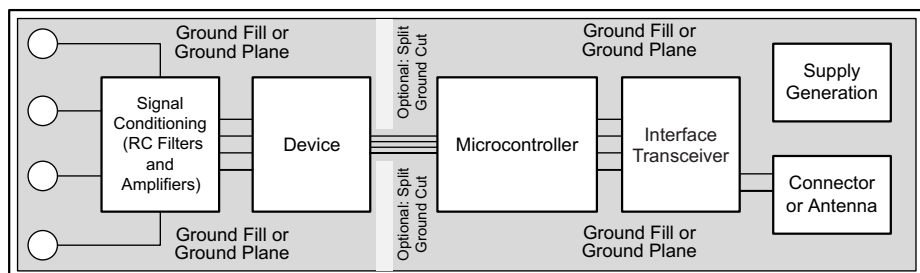

Figure 87. System Component Placement
Employing best design practices is recommended when laying out a printed-circuit board (PCB) for both analog and digital components. This recommendation generally means that the layout separates analog components [such as ADCs, amplifiers, references, digital-to-analog converters (DACs), and analog MUXs] from digital components [such as microcontrollers, complex programmable logic devices (CPLDs), field-programmable gate arrays (FPGAs), radio frequency (RF) transceivers, universal serial bus (USB) transceivers, and switching regulators]. An example of good component placement is shown in Figure 87. Although Figure 87 provides a good example of component placement, the best placement for each application is unique to the geometries, components, and PCB fabrication capabilities employed. That is, there is no single layout that is perfect for every design and careful consideration must always be used when designing with any analog component.